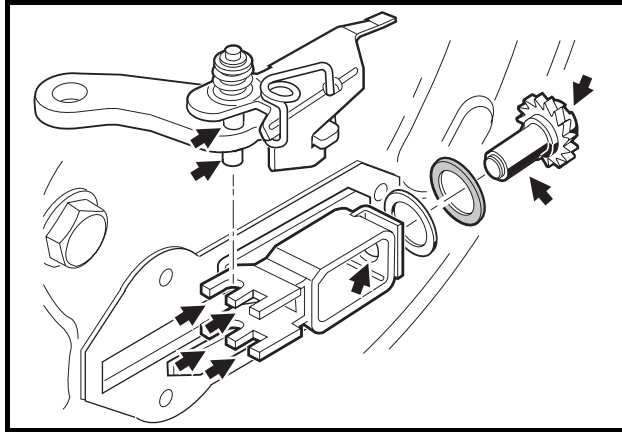

Figure 6-11 Apply Grease To Brake Adjuster
6. Use a small brush to carefully apply a light coat of white lithium NLGI #2 grease (Dow Corning BR2-Plus or equivalent) to the brake adjuster assembly, adjuster wheel shoe slots, and the shaft of the adjuster wheel as shown (**Figure 6-11, Page 6-6**). **See preceding WARNING.**